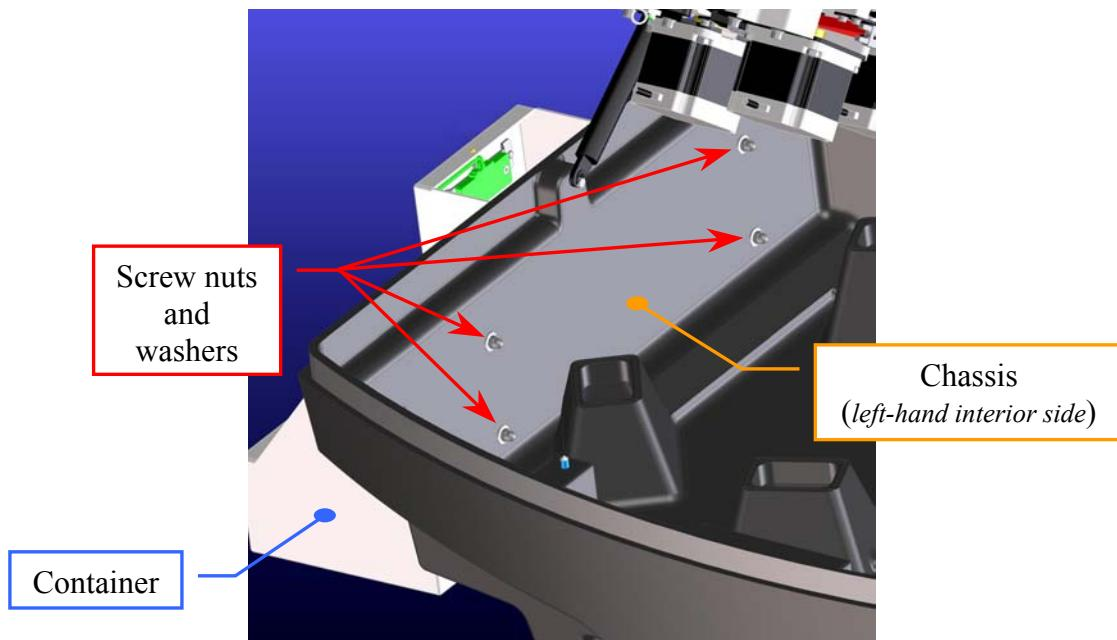

Fig. 3 – Container installed on the instrument
5. Put the four washers on the threaded pins from the left-hand interior side of the instrument (**Fig. 3**).
6. Screw completely the four screw nuts on the threaded pins from the left-hand interior side of the instrument (**Fig. 3**).